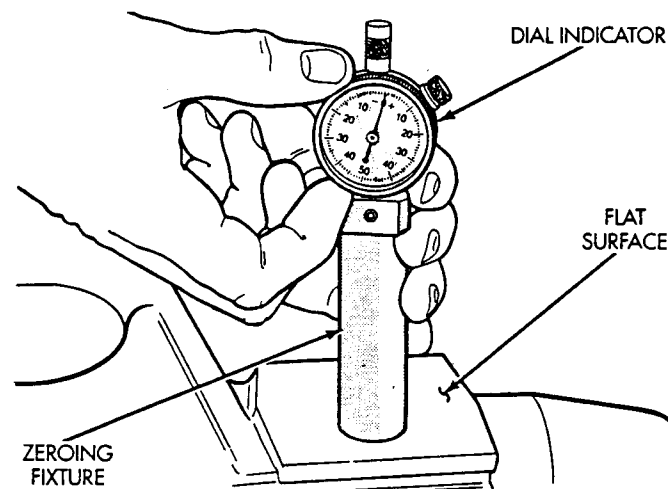

Fig. 9 Zero Dial Indicator
(9) Before making a pinion depth measurement the dial indicator must be zeroed. This is done by placing the dial indicator in the zeroing fixture (special tool 6549-6). Then place the zeroing fixture on a flat surface. Adjust the dial face so that the pointer on the dial indicator lines up with the zero on the dial indicator face (Fig. 9).